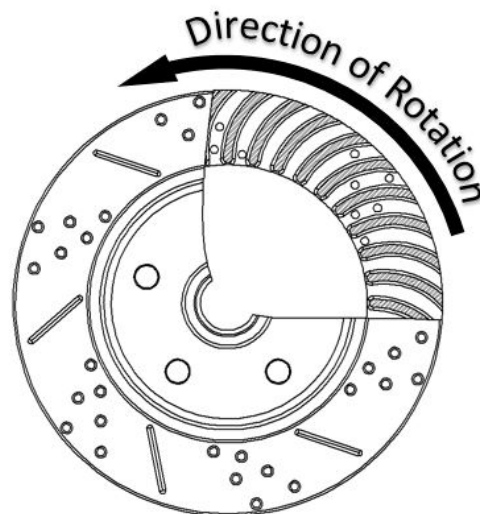
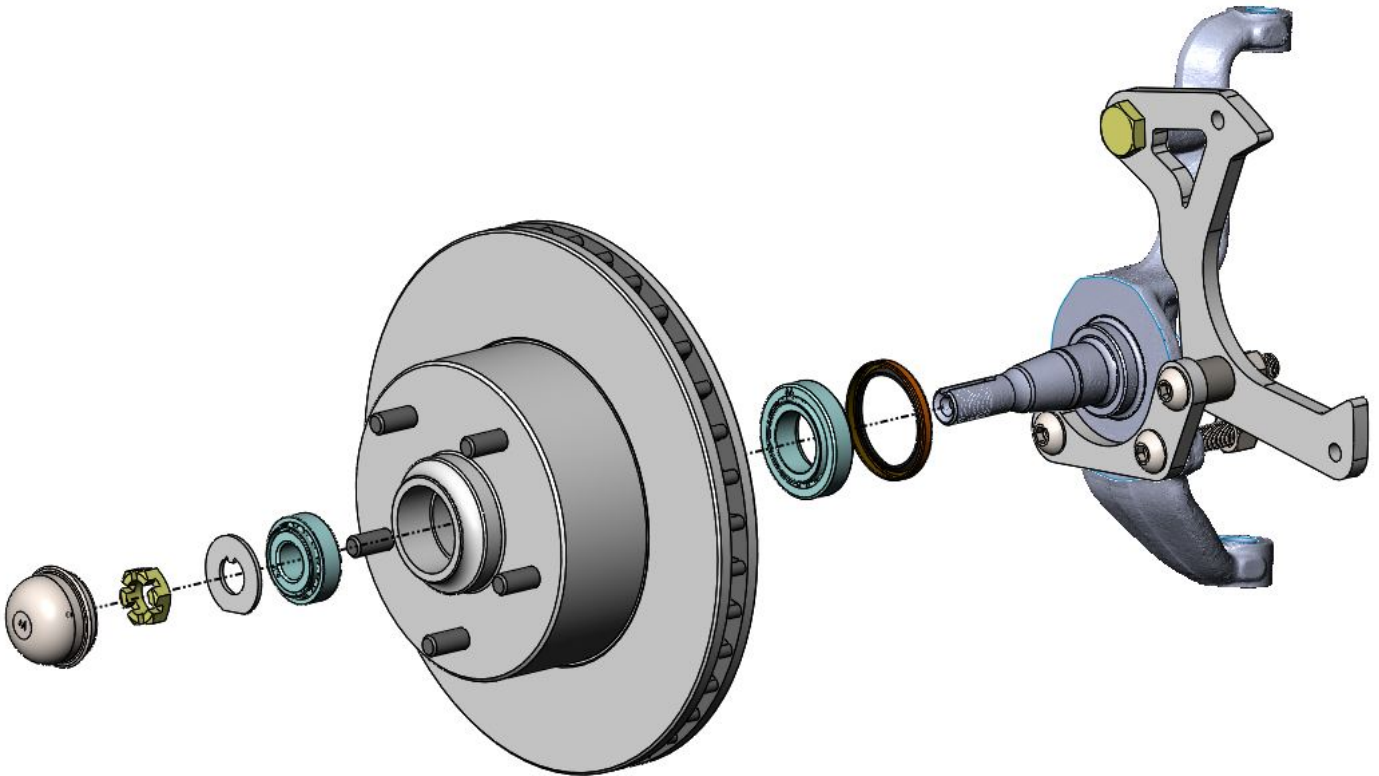

Figure 4 – Direction of Rotor Rotation
Figure 5 – Rotor Installation (Driver Side Shown)
8. Slide the rotor onto the spindle. The inner wheel bearing and grease seal should be installed at this point. With the rotor fully pushed onto the spindle, install the outer wheel bearing followed by the keyed washer and the spindle nut. When tightening the spindle nut, tighten to 5-10 ft/lbs. Loosen the nut and tighten again using the same 5-10 ft/lbs. Do this a couple of times spinning the rotor to fully seat the wheel bearings onto the spindle. Loosen the nut a final time and re-tighten to move all play. Tighten approximately an additional 1/16th of a turn to give the appropriate pre-load and line up the cotter pin hole. Install the spindle nut retainer and the cotter pin to secure followed by the grease cap. Refer to Figures 4 below and Figure 5 on the next page for reference.